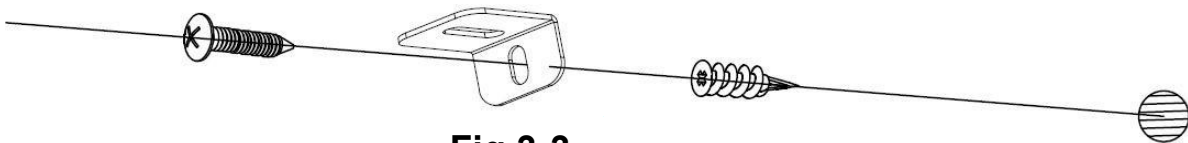

Fig 3-3
C. Install the plastic anchor (C) into the drywall, then install the screw (B) (supplied) into the hole of the L-bracket into the wall anchor to secure the fireplace from coming off the hooks. (Fig 3-3)